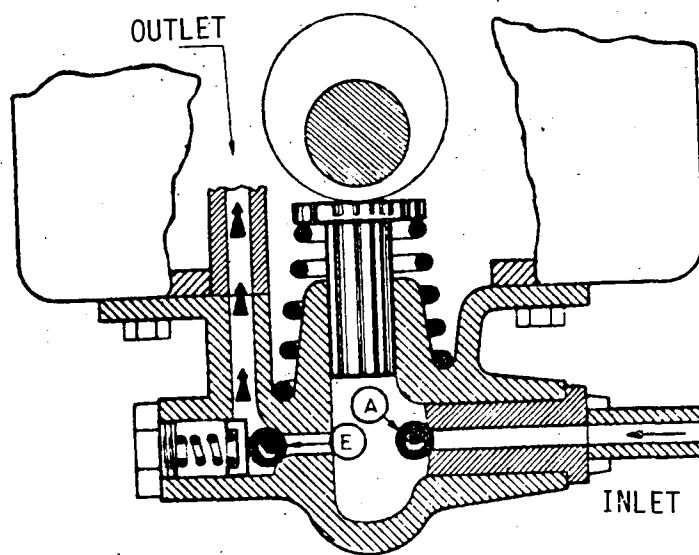

Fig. 5
Piston Pump (fig. 5). The piston movement is achieved by means of an eccentric of the camshaft. On passing the eccentric, the piston rises sucking in oil through the valve (A), filling the chamber. When the cam pushes the piston, it lowers pressurizing the oil and sends it through the valve (E) towards the outlet.